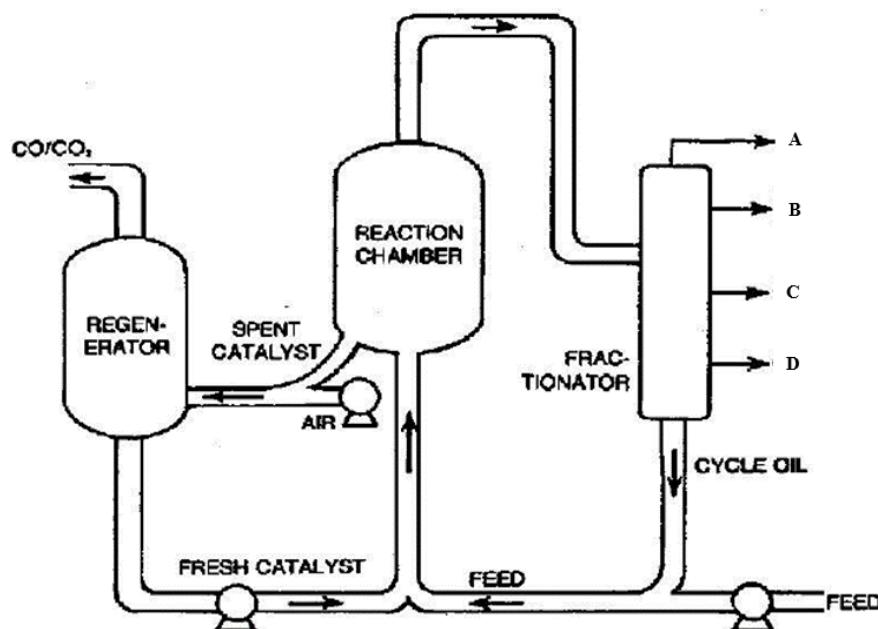

Figure 2 (c) (ii): Process flow diagram of Catalytic Cracking Unit /
- ii. Complete the process flow diagram of catalytic cracking unit in Figure 2 (c) (ii) with the right name of product A, B, C and D.